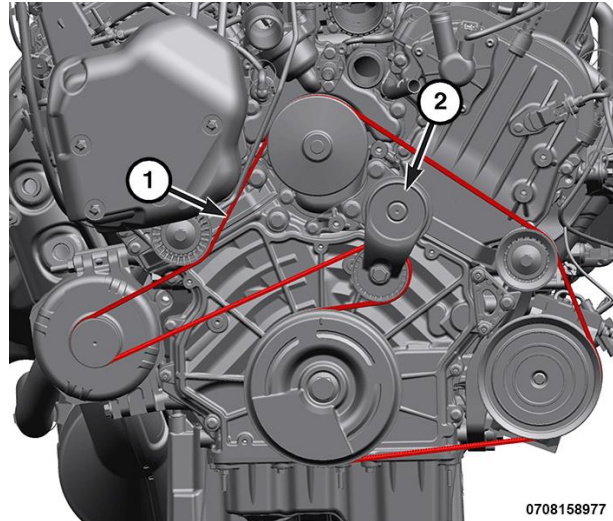

Figure 10 – Serpentine Belt and Tensioner
16. Rotate belt tensioner (2) until it contacts its stop. Partially remove the serpentine belt (1), then slowly rotate the tensioner (2) into the free position (Figure 10).
43. Rotate belt tensioner (2) until it contacts its stop. Install the serpentine belt (1), then slowly release the tensioner (2) (Figure 10).